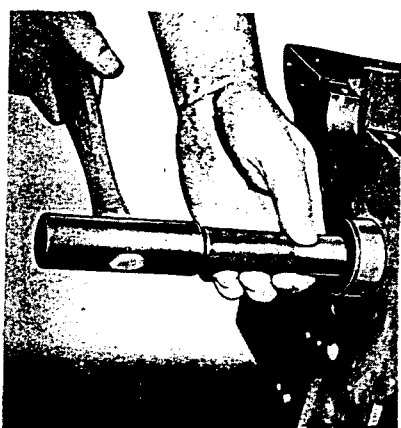

Figure 8-1-35
6. Align oil hole on bearing with oil hole from oil gallery and drive bearing in from front of engine (see Figure 8-1-35).